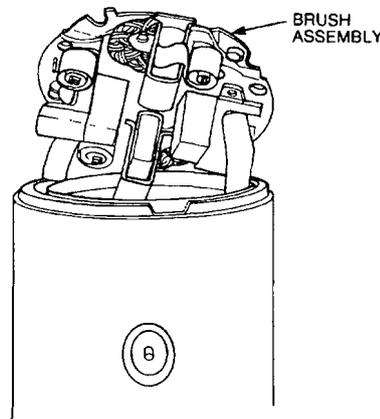

Figure 277 Field Housing and Brush Assembly Removal
- i. Disengage the brushes from the brush holder, remove the field housing and brush assembly from the starter motor housing (Figure 277).